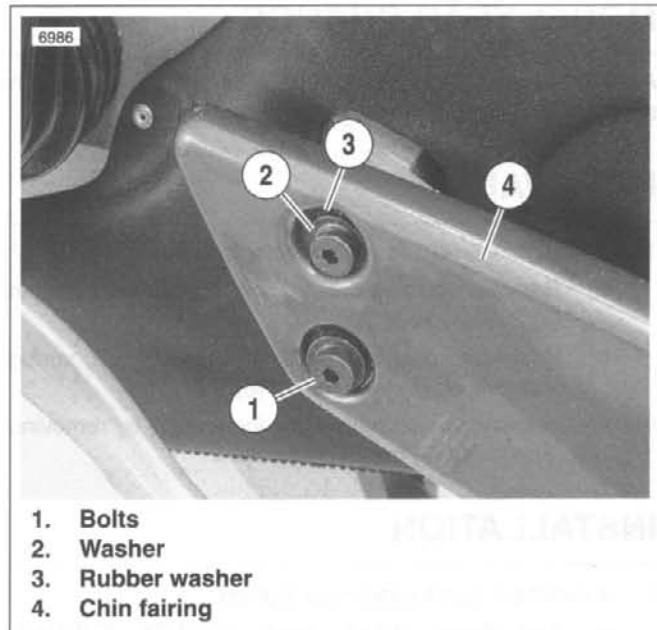
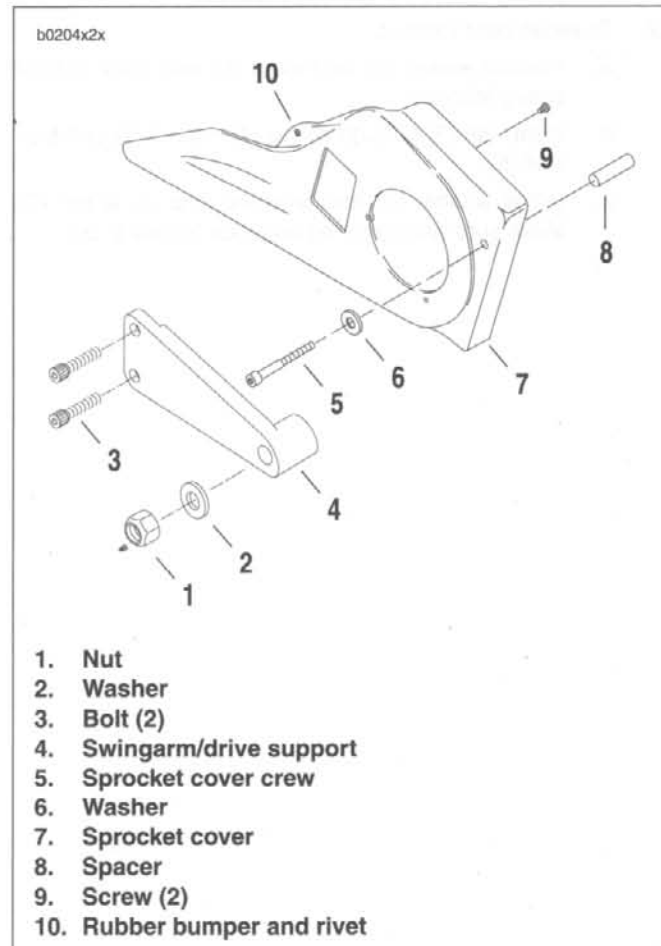

Figure 2-149. Chin Fairing, Right Side
Figure 2-150. Sprocket Cover
1. See Figure 2-149. Remove two bolts (1), washers (2) and rubber washers (3).
2. See Figure 2-150. Remove nut (1) and washer (2).
3. Remove sprocket cover screw (5), washer (6) and spacer (8).
4. Remove swingarm drive/support (4) and sprocket cover (7) as an assembly.
5. Remove two screws (9) to separate sprocket cover from swingarm/drive support. Do not remove rivet holding rubber bumper (10).
1. See Figure 2-150. If removed, attach sprocket cover to swingarm/drive support.
- b. Apply LOCTITE THREADLOCKER 222 (purple) to both screws (9).
2. Apply LOCTITE THREADLOCKER 243 (blue) to screw (5). Install sprocket cover assembly with screw (5), washer (6) and spacer (8). Tighten to 4-6 **ft-lbs** (5.4-8.6 Nm).
3. See Figure 2-149. Apply LOCTITE THREADLOCKER 272 (red) to bolts (1). Place metal washer over screw and then install rubber washer. Install and tighten to 9-10 **ft-lbs** (12.2-13.6 Nm).
4. Install nut (1) and washer (2). Tighten to 30-35 **ft-lbs** (40.7-47.4 Nm).